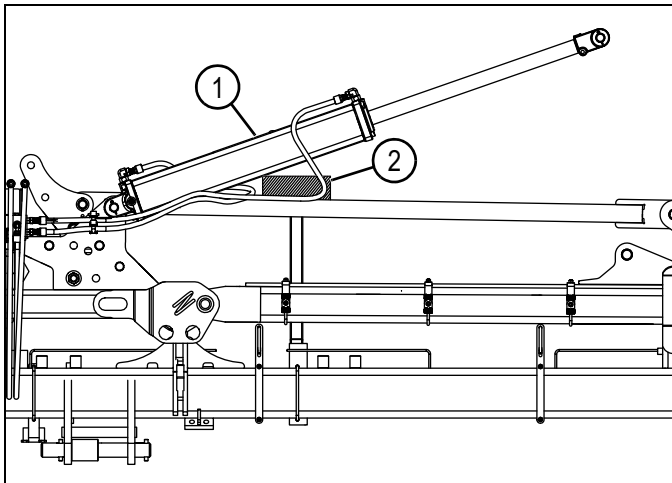

Figure 7-4: Left Wing Fold Cylinder
3. Use an appropriate lifting device to support left wing fold cylinder (1).
5. Position and support left wing fold cylinder with a block of wood (2) as shown in Figure 7-4.